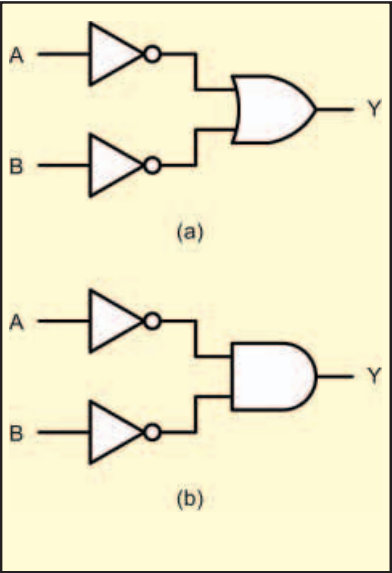

Fig.8.15. See Questions 8.1
- Q8.4. State the Boolean logic expression for the output of each of the gate arrangements shown in Fig.8.15.